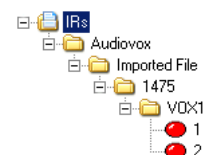

FIG. 34 IRL in Navigator Window
4. The new .IRL files appears under the database in the Navigator window. Next is the product name, then Imported File. Then the hand control model. Followed by category and finally the address (FIG. 34).